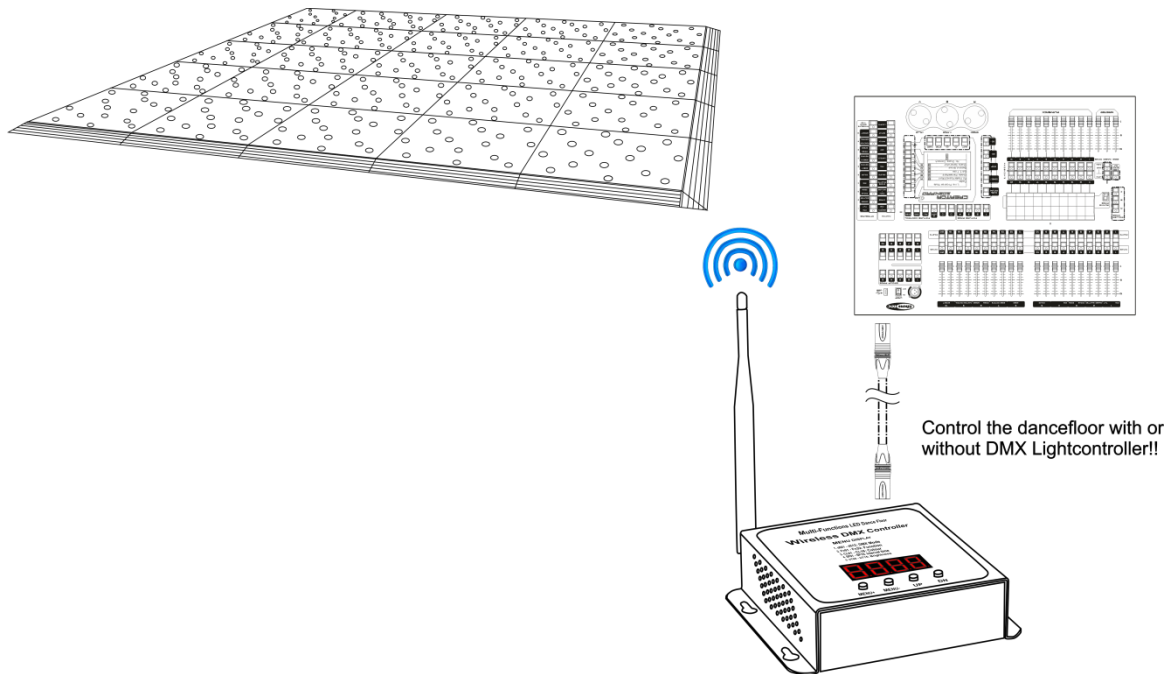

Fig. 12
- 03) Use the Dancefloor Sparkle DMX Box or DMX lightcontroller to operate the dancefloor, see figure 12.